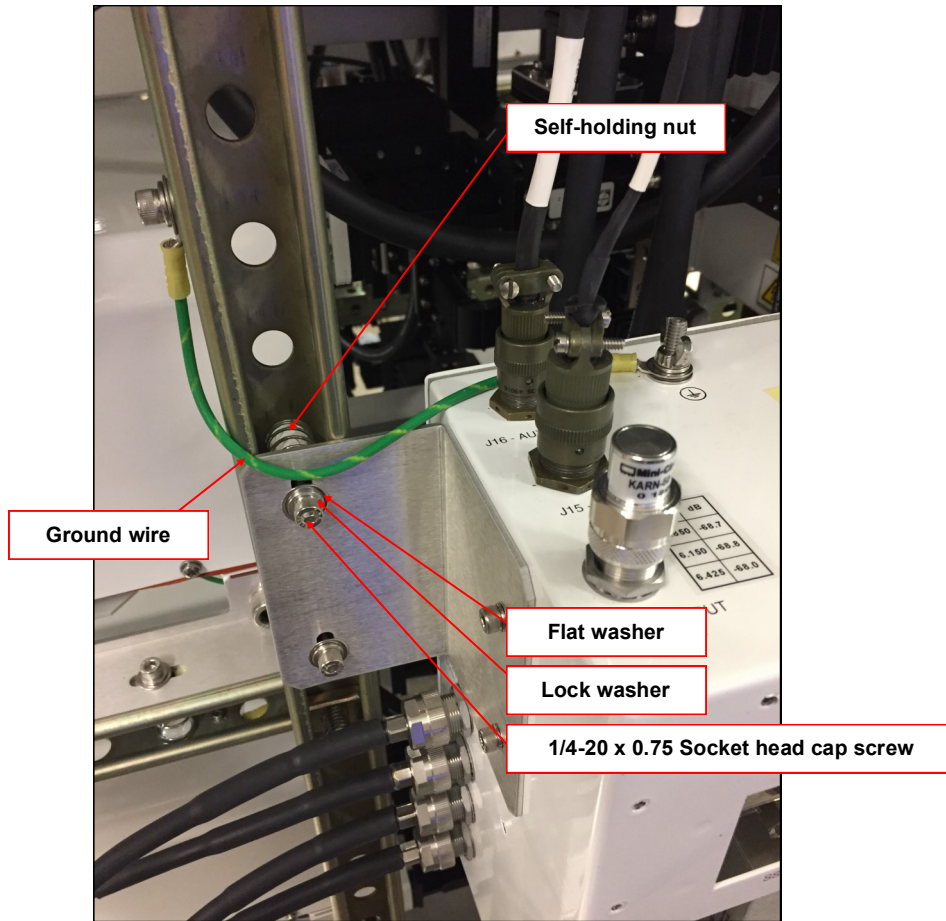

Figure 2-16: Secure RF Distribution Box to Uni-strut Frame
Secure the mounting brackets to the uni-strut frame using four (4) sets of 1/4-20 x 0.5 socket head cap screws, flat washers, lock washers and the self-holding nuts installed above. Tighten hardware securely. See **Figure 2-16**.